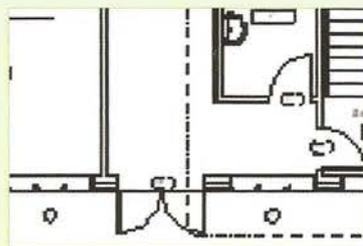

Fig 52: PDF file
- On the canvas, zoom in to the south entry door (Figure 52).